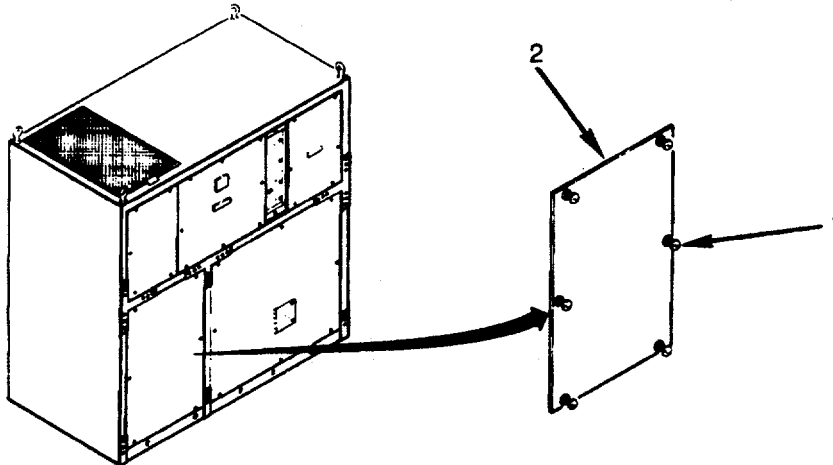

Figure 4-7. Left Front Condenser Panel Removal
- e. Remove Left Front Condenser Panel. Loosen six captive fasteners (1) and remove panel (2) (see Figure 4-7).